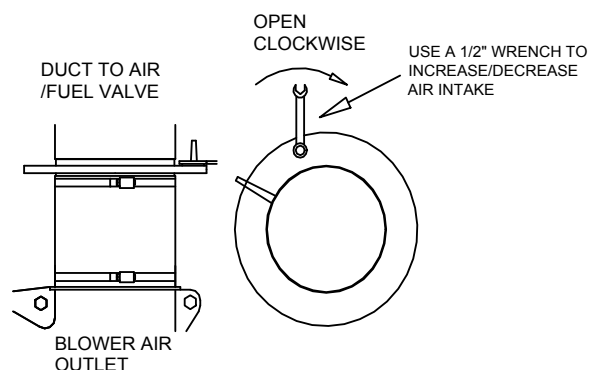

Figure 4.5
- If the measured oxygen level is not within specified range in Table 3, adjust the iris damper as necessary until the measured oxygen reading is within specification. (See Figure 4.5).